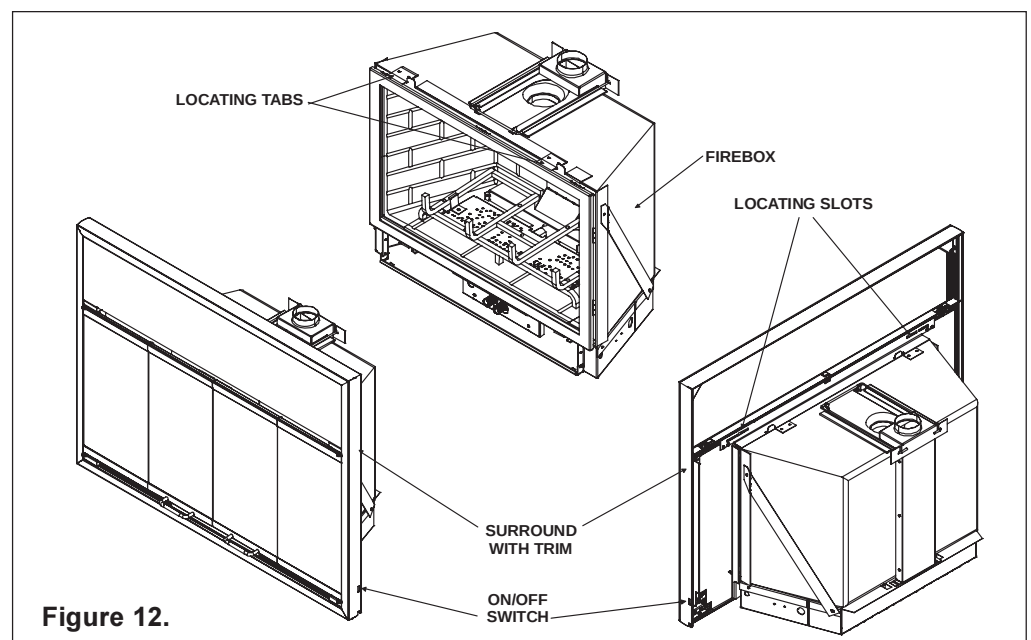

Figure 12.
1. Find the coiled low voltage wires and ON/OFF switch attached to outer right side of the insert. See Figure 12, (Model CFX-IN shown).
4. Attach surround assembly by hooking the support bracket on the locating tabs on top of the gas insert fireplace (see Figure 12.) Once the surround assembly is on the locating tabs, ensure the bottom hooks are resting on the locating pins at the base. Reposition the fireplace if necessary. Refer to surround instructions provided with the decorative surround.